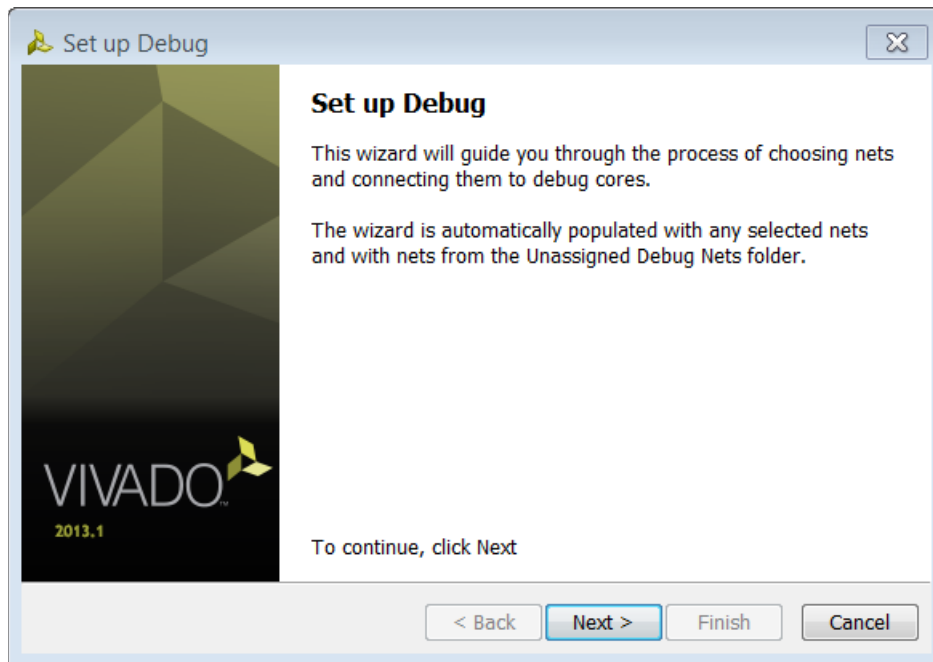

Figure 32: Setup Debug Wizard
2. When the Set up Debug wizard opens, click **Next** (Figure 32).